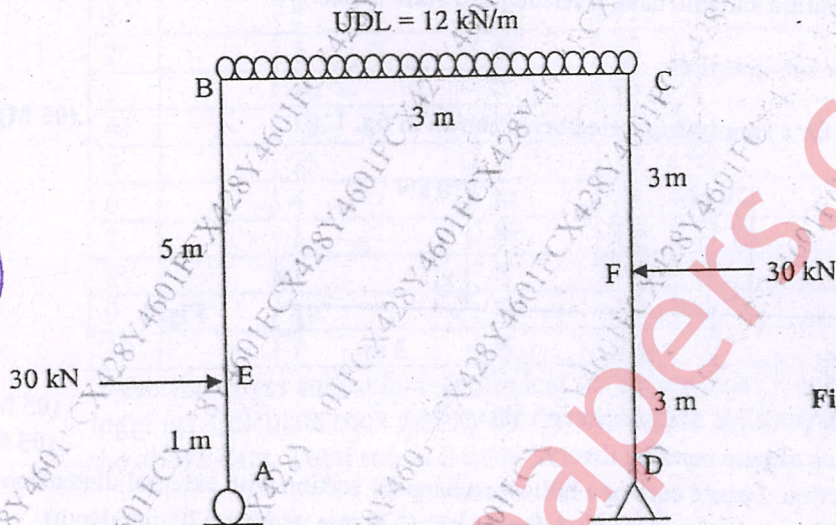

Fig. 3
Q. 3) a) Draw AFD, SFD & BMD for the frame shown in fig. 3.